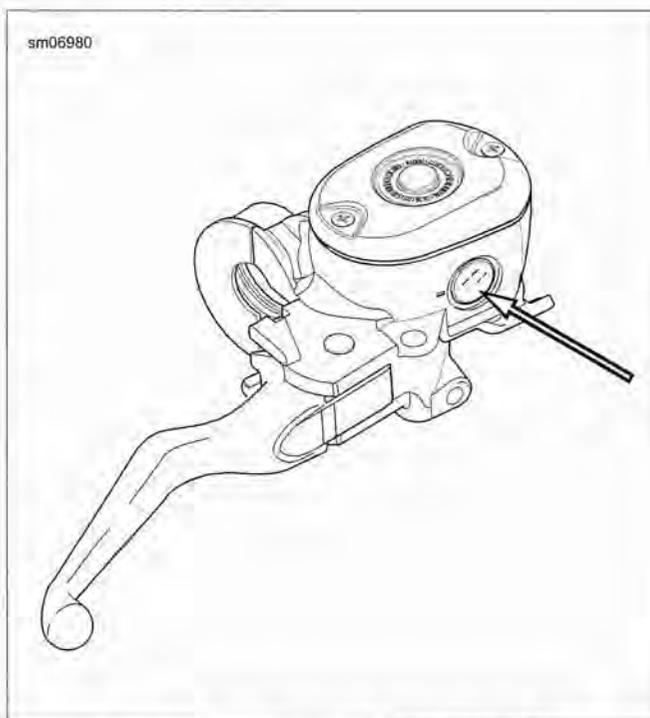

Figure 1-9. Front Master Cylinder Sight Glass
1. **Front brake:** Position vehicle on a flat level surface. Turn handlebar so front brake master cylinder is approximately level. See Figure 1-9. View reservoir sight glass and verify fluid presence.